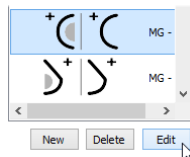

Figure 444 – Editing a selected hanging protocol
- Select the hanging protocol in the list of all protocols on the **Mammography workflow** tab of the **TomoCon options** dialog and click the **Edit** button (see Figure 444).